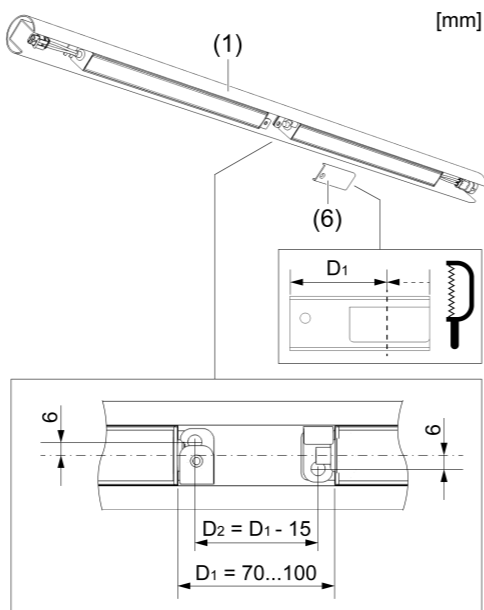

Figure 4: Determining distance + adapt groove cover
- Determine the distance between the lighting inserts and adapt groove cover (Figure 4).